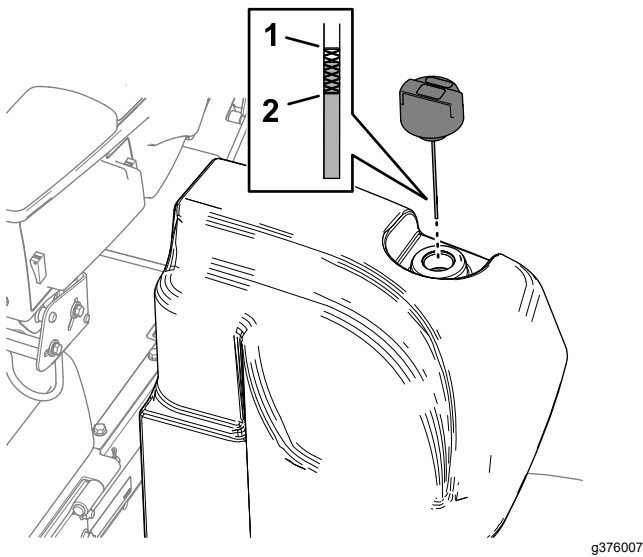

Figure 145
2. Clean the area around the filler neck and the cap of the hydraulic tank (Figure 145).